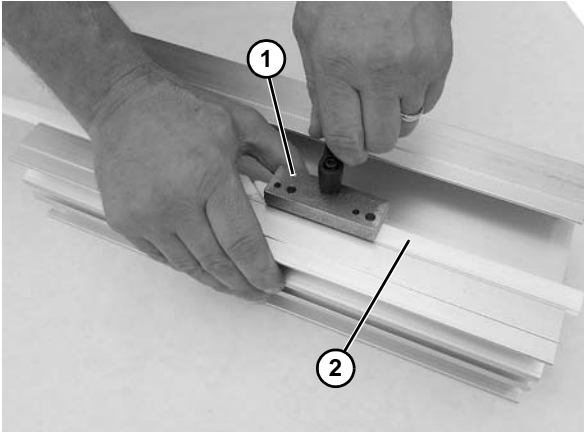

Figure 41
1. Attach wear strip replacement tool (**Figure 41, item 1**) over wear strip (**Figure 41, item 2**) and frame near the beginning of each wear strip section. Tightly secure in place.